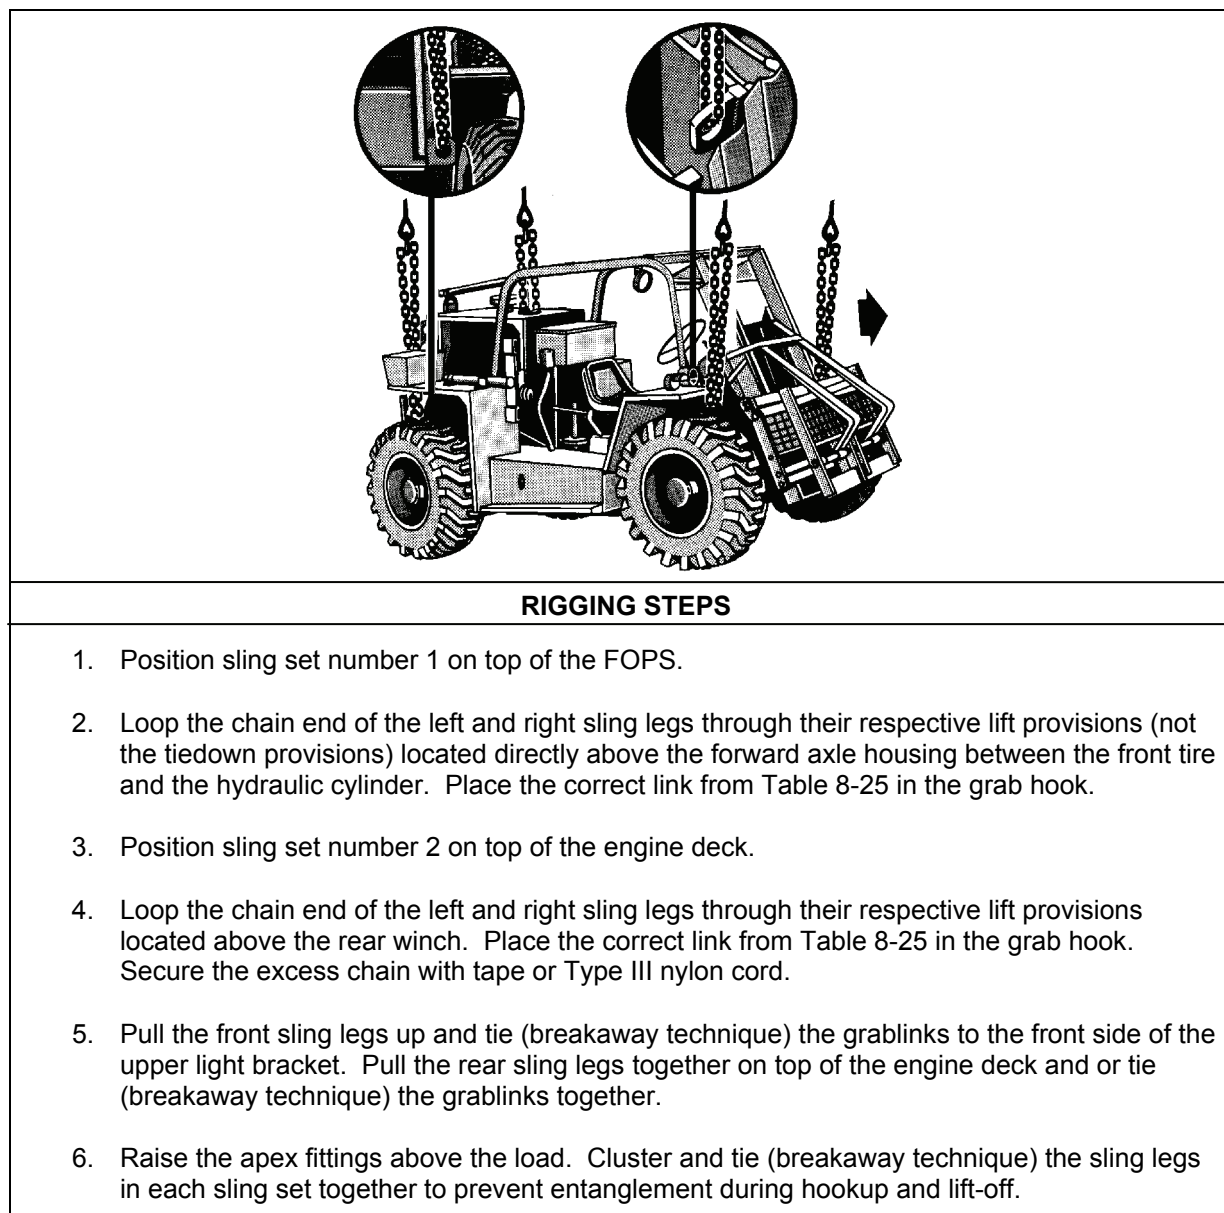

Figure 8-25. Truck, Forklift, RT-4000
- **Rigging.** Rig the load according to the steps in Figure 8-25.